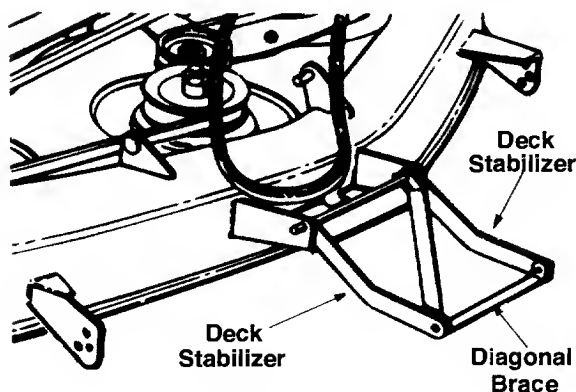

Figure 9
4. The two deck stabilizers and the diagonal brace which are attached to the front of the deck are folded back over the deck for shipping purposes. Unfold them at this time. See Figure 9.